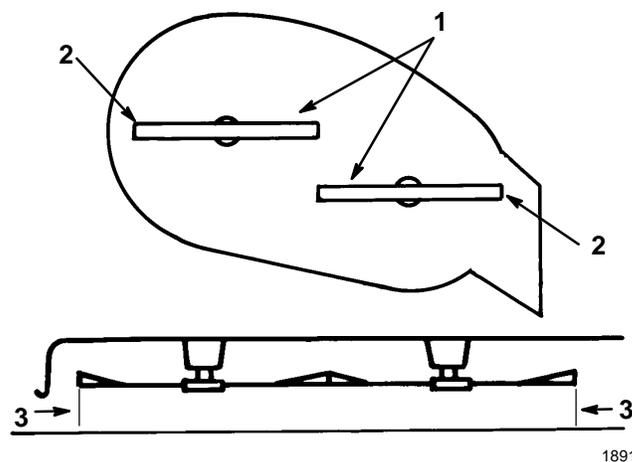

Figure 48
4. Carefully rotate blade(s) side to side (Fig. 48). Measure between the outside cutting edges and the flat surface (Fig. 48). If both measurements are not within $3/16$ " (4.8 mm), an adjustment is required; refer to steps 5 and 6.